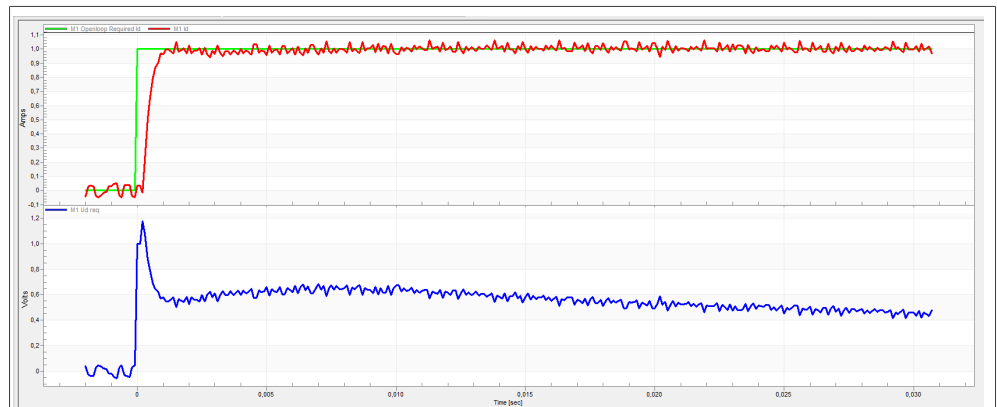

Figure 27. Optimal step response of the Id current controller
- The loop bandwidth (300 Hz) is optimal and the response time of the Id current is sufficient (see Figure 27).